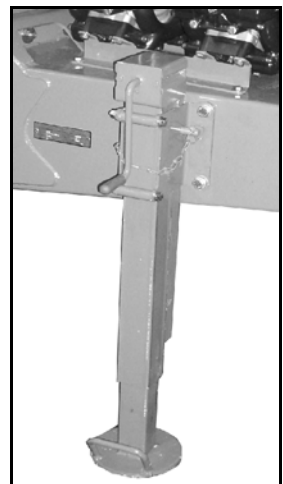

Fig. 51
- Stand lowered (Fig. 51) when machine is uncoupled.